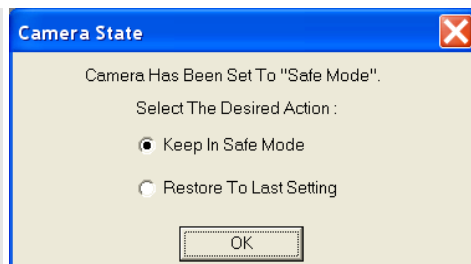

Figure 125. Camera State dialog
**Note:** The DG535 is used to control the PI-MAX gate functions. If the system is equipped with a PI-MAX camera, the Camera State dialog (Figure 125) will appear when the software is started. Although the software always initially places the PI-MAX in Safe mode, you have the option of restarting with the last setting (Shutter Mode or Gate Mode).